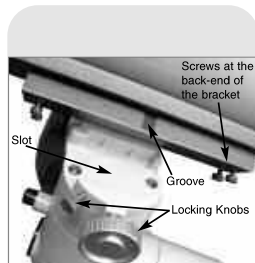

Fig. 54 Mounting the SC bracket and optical tube to the mount.
- Slide the mounting bracket into the cradle assembly mounting slot. For most applications, set the groove in the bracket next to the cradle locking knob, so that the bolt of the cradle locking knob will enter the groove when the knob is tightened. Tighten both the cradle locking knob and the secondary locking knob to a firm feel. See Fig. 54.
If you are using heavy accessories (such as a camera, microfocus, etc.) on the back end of the tube, you may need to balance the tube differently to keep the tube from drifting downward: Slide the mounting bracket and tube forward, until the screws at the back end of the tray touch the mount. See Figs. 54 and 55. Then tighten the cradle locking knob and the secondary locking knob to a firm feel.